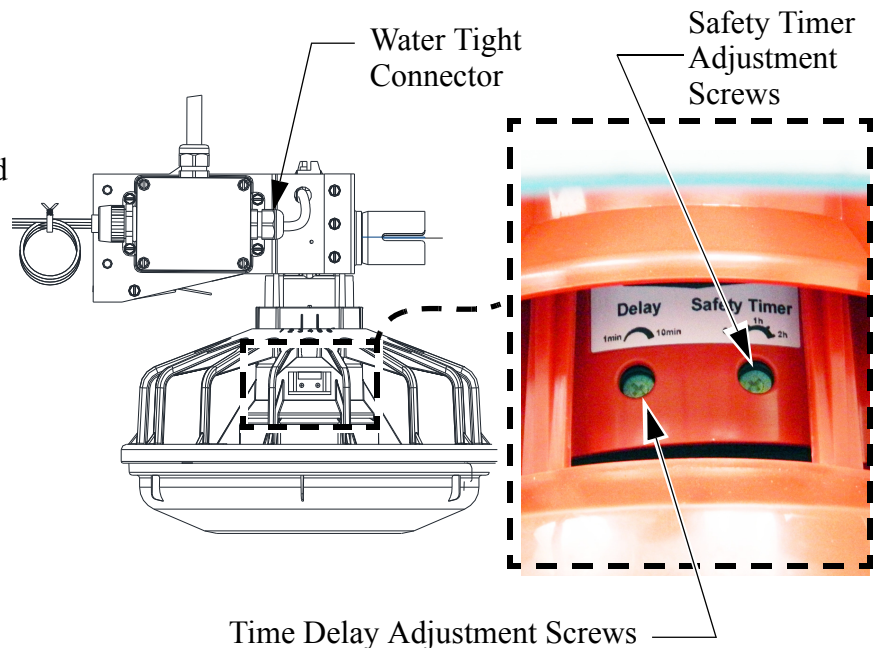

Figure 91. Adjusting the (ES) Proximity Switch
See **Figure 91**. The Electron Sensor's sensitivity is preset at the factory. The time delay adjustment is 1 minute to 10 minutes. *The factory setting is 1 minute.* The Sensor also comes with a Safety Timer that can be set to: Off, 1 hour, or 2 hours. The *factory setting is 2 hours.* To get access to the Adjustment Screws:
- Step 2:** Pull the Sensor Down to expose the Safety Timer and Time Delay Adjustment Screws See **Figure 91**.